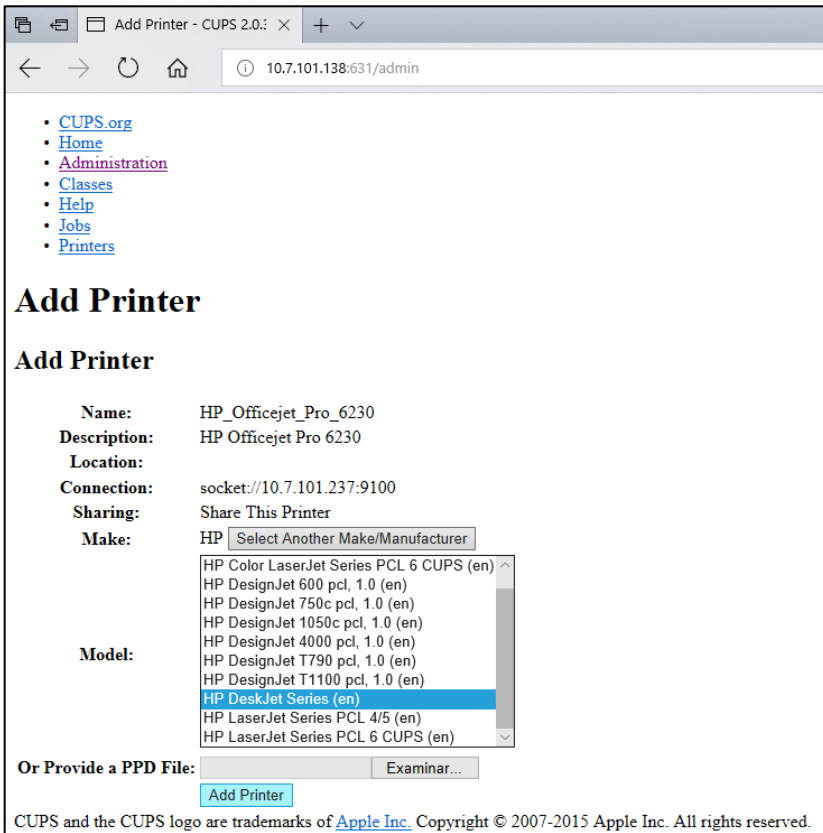

Figure 103. Selecting the printer driver.
**Note:** If your printer driver is not listed, use the most generic driver for your printer brand. If none of the listed drivers are working, download the necessary CUPS driver as a PPD file from the web and select it in the **Or Provide a PPD File** field before you press **Add Printer** (Figure 103).